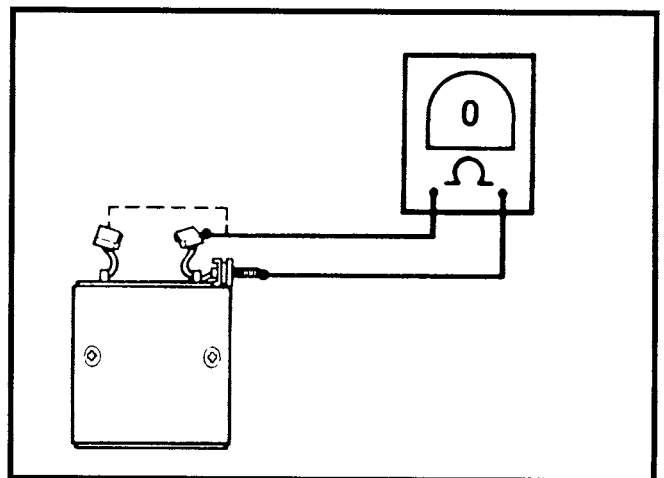

Figure 79. Open Field Test
14. See Figure 79. Check for OPEN FIELD WINDING with an ohmmeter or continuity tester. Touch one probe to the field wire, and the other probe to each of the brushes attached to the field coils. There should be continuity. If there is no continuity at either brush, the field winding(s) are open and the field frame should be replaced.